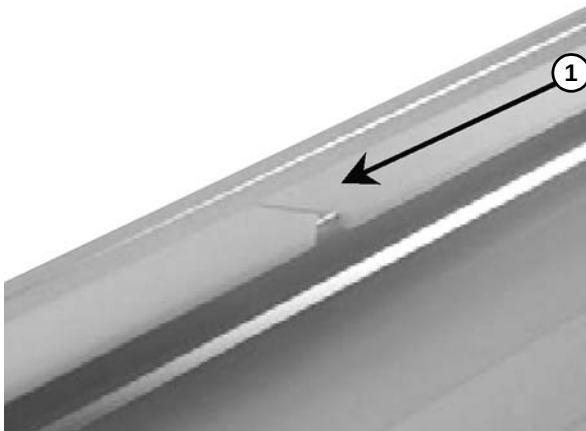

Figure 60
2. Allow a space of approximately 1/16" to 1/8" (**Figure 60, item 1**) between two wear strip ends. The travel direction is indicated by arrow.